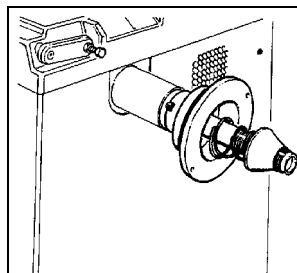

fig.12
- Figs. 12 and 13 show the attachment system for car wheels using the cone flange.